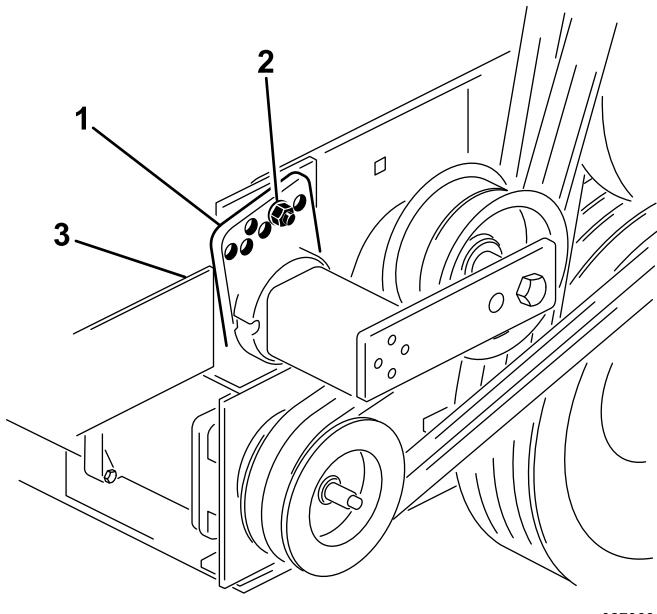

Figure 14
3. Remove the bolt and nut securing the tensioner guide to the drive mount to release the belt tension (Figure 14).